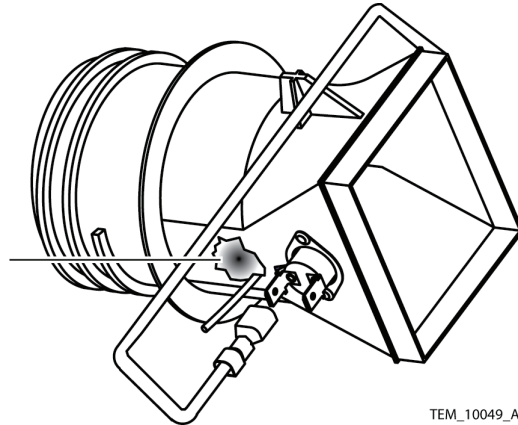

Figure 59. Thermistor Silicone
- Remove the silicone RTV from the thermistor connection on the duct adapter assembly. See Figure 59.
13. Apply a small amount of silicone RTV to the thermistor rivet cap and the adapter housing. See Figure 59.